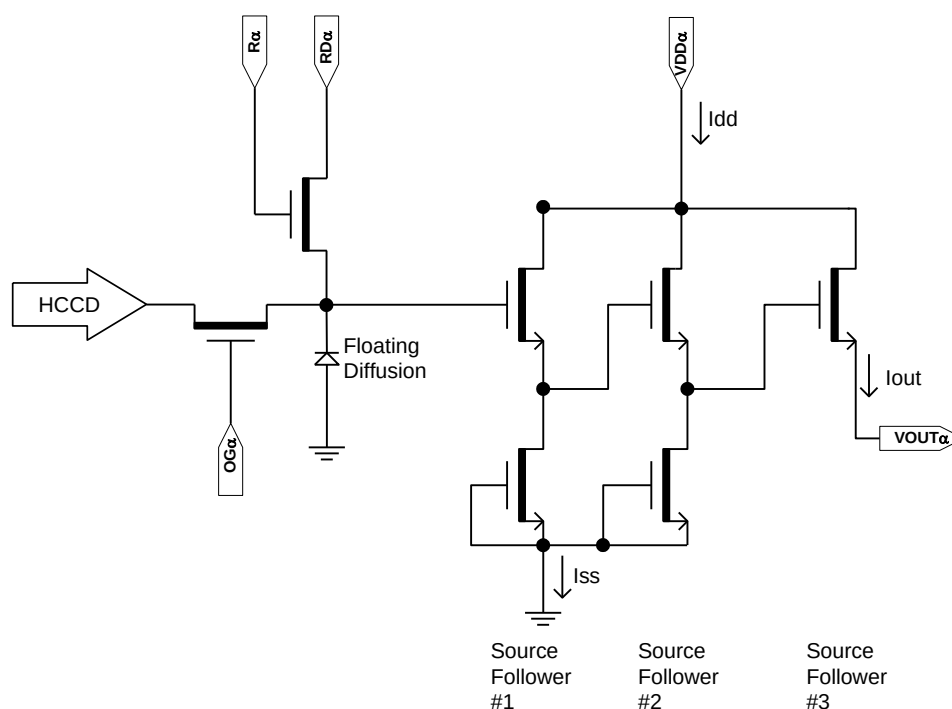

Figure 16: Output Amplifier
2. The maximum DC current is for one output. I_{dd} = I_{out} + I_{ss}. See Figure 16.